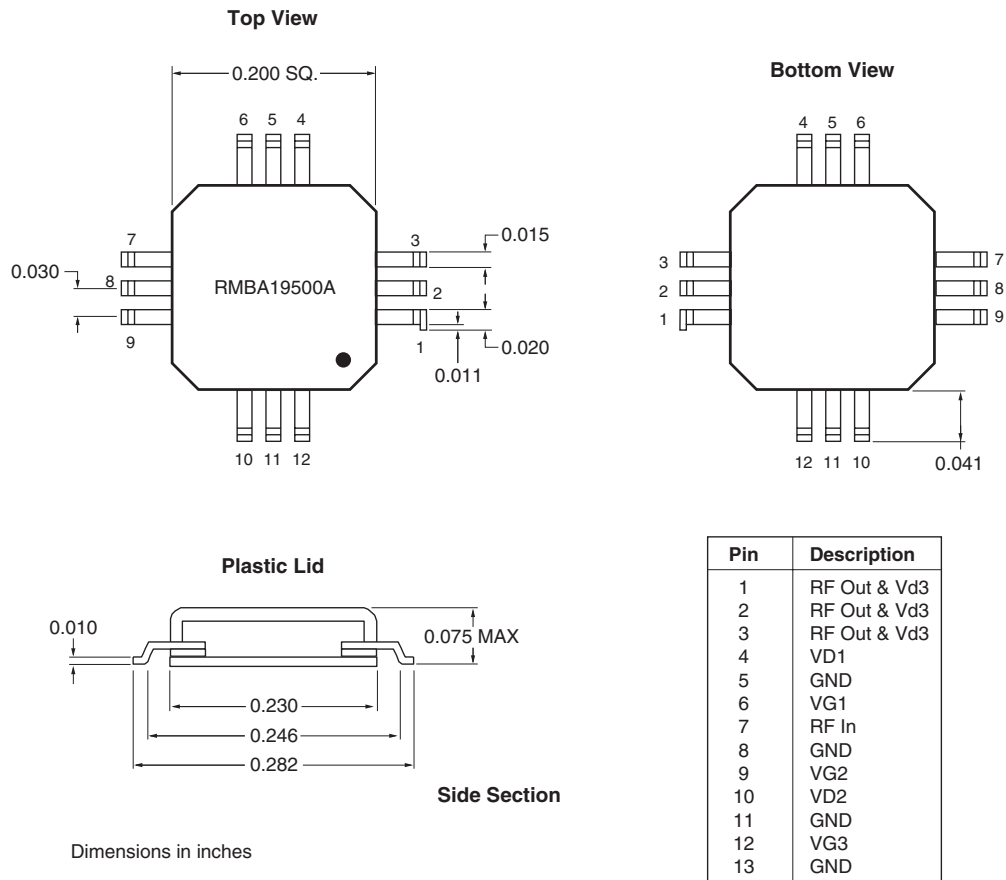
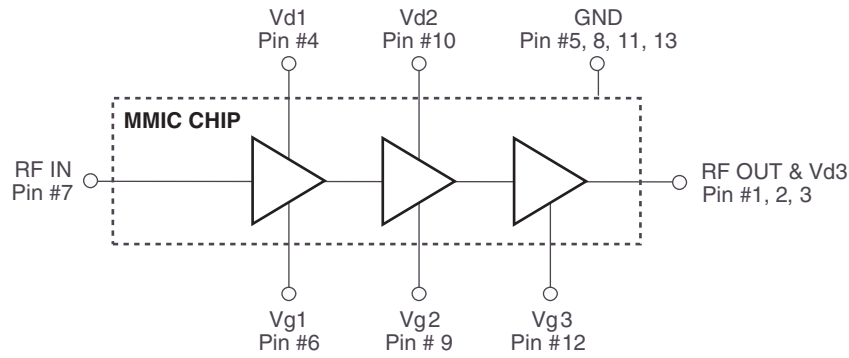
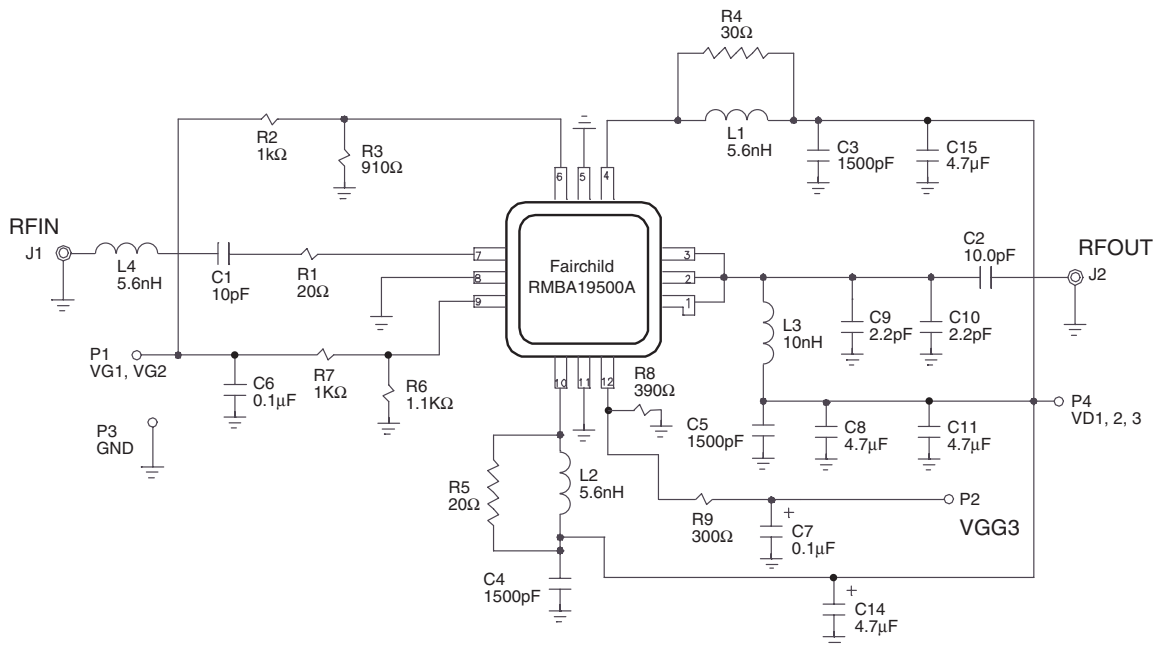
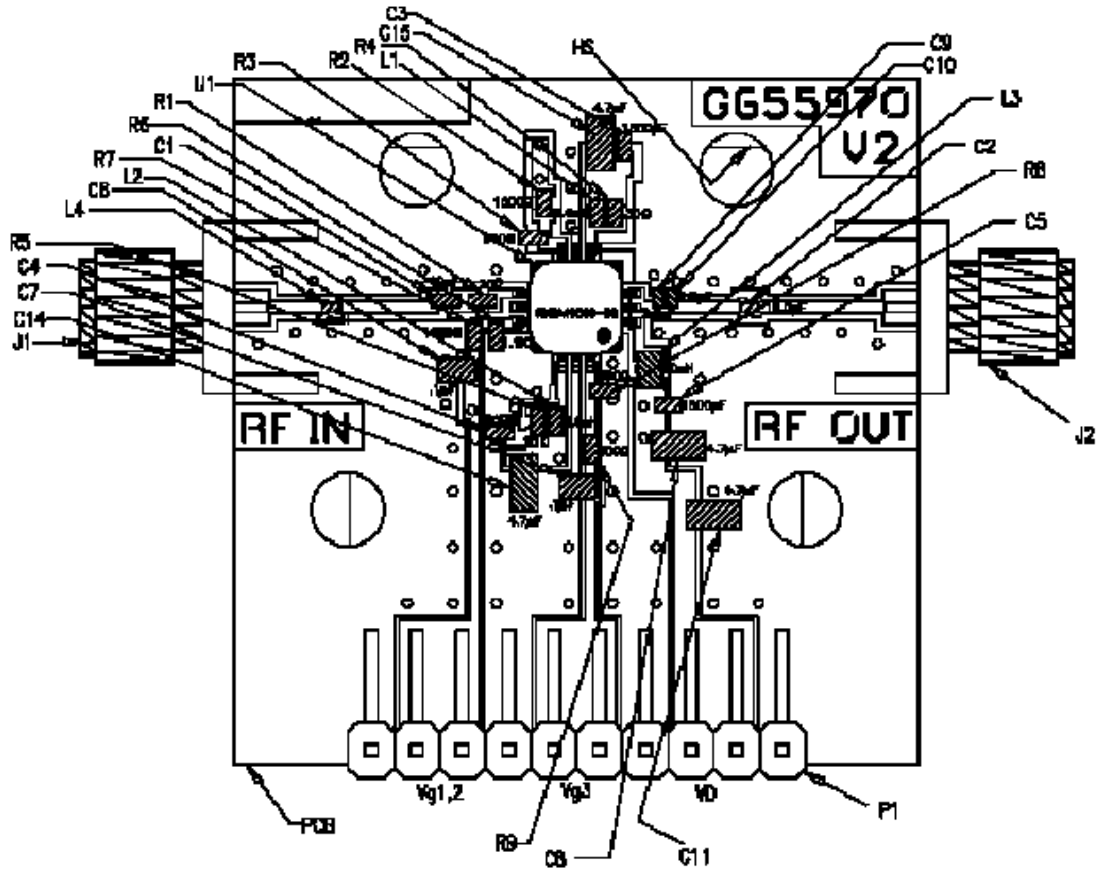

Figure 1. Package Outline and Pin Designations
Figure 2. Functional Block Diagram
Figure 3. Schematic of Application Circuit Showing External Components
Figure 4. Layout of Test Evaluation Board (RMBA19500A-TB, G655971)
The device requires external input and output matching to 50Ω as shown in Figure 3 and the Parts List.
The following describes a procedure for evaluating the RMBA19500A, a monolithic high efficiency power amplifier, in a surface mount package, designed for use as a driver stage for PCS1900 Base station or as the final output stage for Micro- and Pico-Cell base stations. Figure 1 shows the package outline and the pin designations. Figure 2 shows the functional block diagram of the packaged product. The RMBA19500A requires external passive components for DC bias and RF input and output matching circuits as shown in Figure 3 and the Parts List. A recommended schematic circuit is shown in Figure 3. The gate biases for the three stages of the amplifier may be set by simple resistive voltage dividers. Figure 4 shows a typical layout of an evaluation board, corresponding to the schematic circuits of Figure 3. The following designations should be noted:
- (1) Pin designations are as shown in Figure 2.
- (2) V_{g1} , V_{g2} , and V_{g3} are the Gate Voltages (negative) applied at the pins of the package.
- (3) V_{gg1} , 2, and V_{gg3} are the negative supply voltages at the evaluation board terminals (V_{g1} and V_{g2} are tied together).
- (4) V_{d1} , V_{d2} , and V_{d3} are the Drain Voltages (positive) applied at the pins of the package.
- (5) V_{dd} is the positive supply voltage at the evaluation board terminal (V_{d1} , V_{d2} , and V_{d3} are tied together).